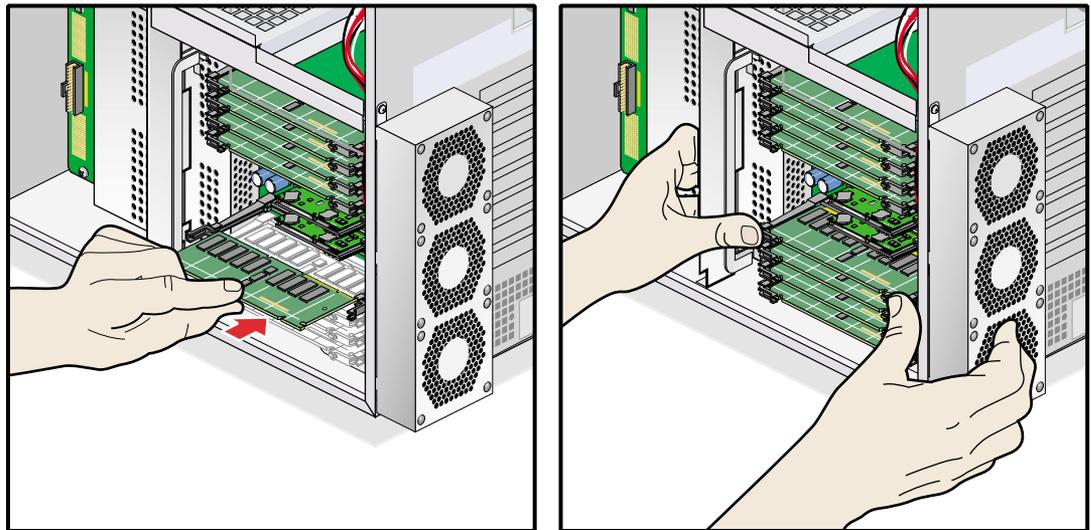

Figure 3-9 Installing a DIMM
1. Rotate the ejector latches on each end of the socket so that they stick straight out, as shown in Figure 3-9.